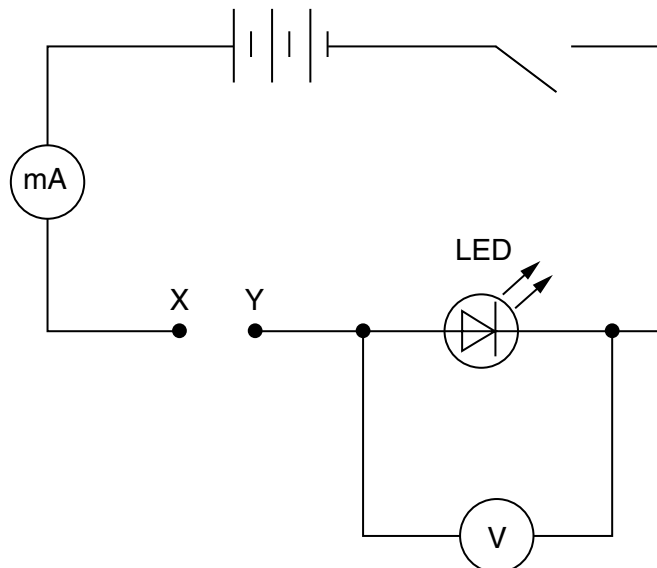

Fig. 4.1
Seven connecting leads to enable the Supervisor to connect up the circuit shown in Fig. 4.1.
- 3 The apparatus should be set up by the Supervisor as shown in Fig. 4.1. The points X and Y should be clearly labelled.
- 4 At the changeover, the Supervisor should remove the resistors from the circuit and open the switch. The apparatus should still be set up as shown in Fig. 4.1.